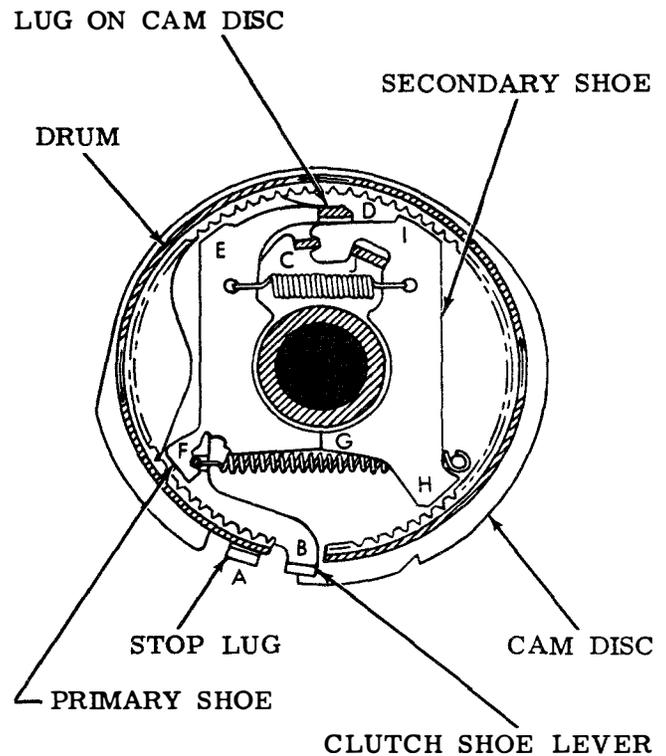

Figure 11 - Clutch - Disengaged
6.07 Clutch disengagement (Figure 11) is accomplished by bringing together lug A on the clutch cam disc, and the lower end of the clutch shoe lever B. The upper end of lever B pivots about its ear C and allows its other ear D to move toward the right. The upper spring then pulls the two shoes together and away from the drum.